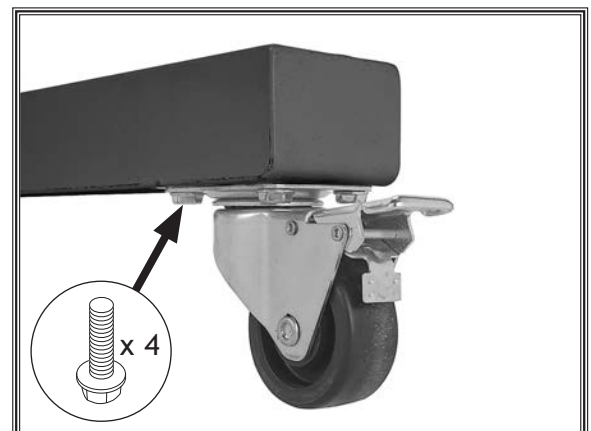

Figure 9. Locking swivel caster (1 of 4) attached to base.
1. Attach (4) 2 1/2" locking swivel casters to bottom of base, and secure each caster with (4) 5/16"-18 x 1/2" flange bolts (see **Figure 9**).